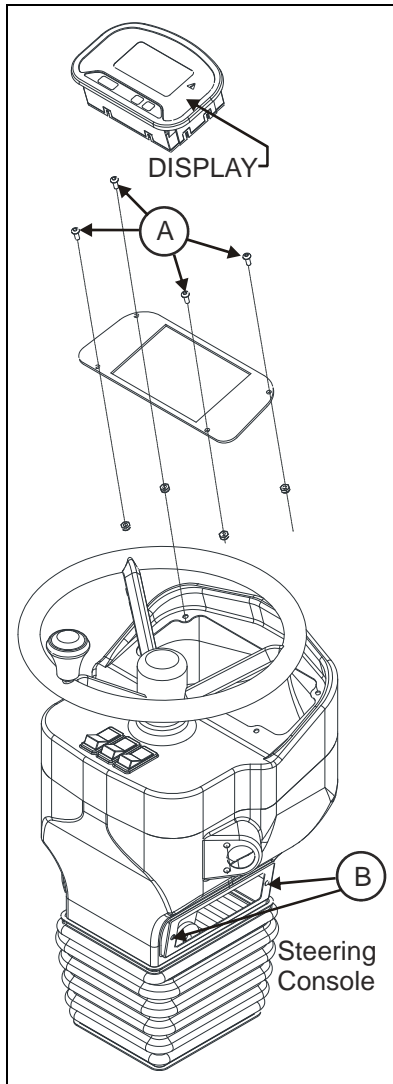

Figure 3-31: Steering Console and Display
5. Remove the four 10-32 X 1/2 socket cap screws and hardware marked (A), See Figure 3-31.
6. Remove the screws and hardware marked (B).